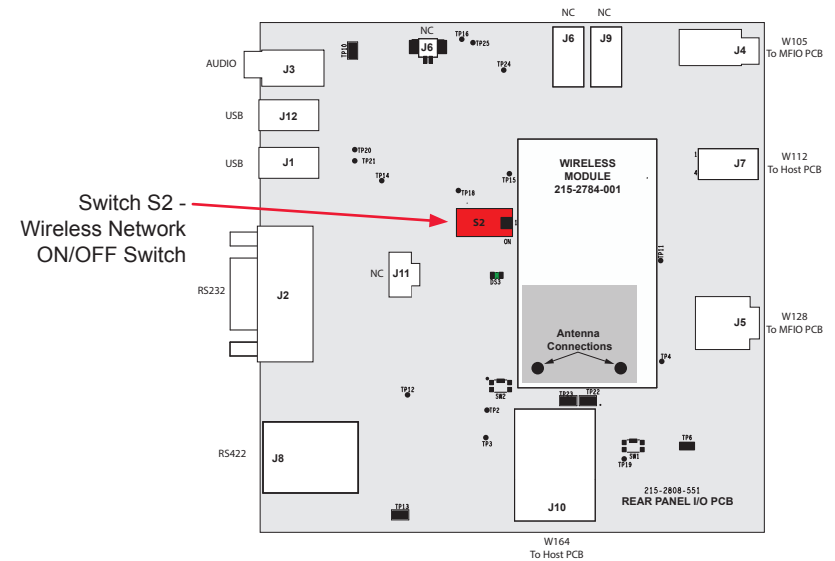

Figure 4-30 Wireless Network ON/OFF Switch on Rear Panel I/O-Wireless Module Assembly
- 11.2.2 On Rear Panel I/O-Wireless Module Assembly, move switch S2 into the off position to disable network wireless activity (see Figure 4-30 for switch location).